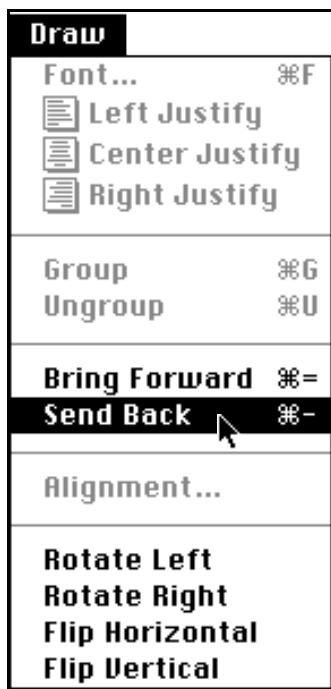

Figure 6-21 Draw Menu - Send Back
2. Choose **Send Back** from the **Draw** menu or press **-**. See Figure 6-21.